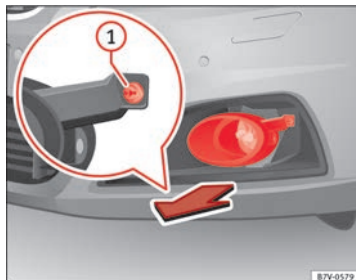

Fig. 210 On the right-hand side of the front bumper: Removing the headlights
2. Pull the cover forwards, in the direction of the arrow ⇒ Fig. 210.
3. Unscrew the attachment screw ⇒ Fig. 210 ① using the screwdriver from the vehicle tool kit ⇒ page 324.
11. Tighten the attachment screw ⇒ Fig. 210 ① using the screwdriver.
12. Replace the cover on the bumper ⇒ Fig. 210.